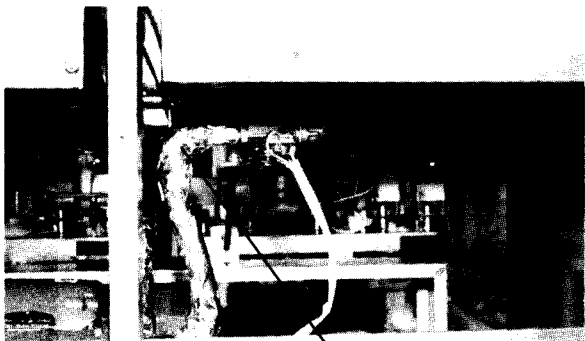

Figure 30
20. Remove hose from oil return valve assembly (Fig. 30).